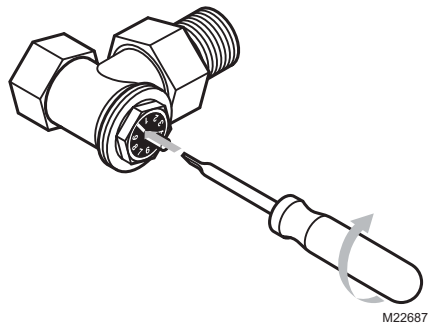

Fig. 4. Closing valve.
1. Select the installation diagram (from Fig. 4 through 16) that most accurately represents your equipment and piping configuration.